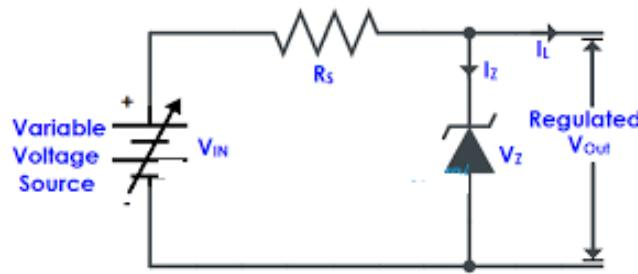

Fig.3.3 Zener diode as voltage regulator
1. Make the connections as shown in the Fig. 3.3.